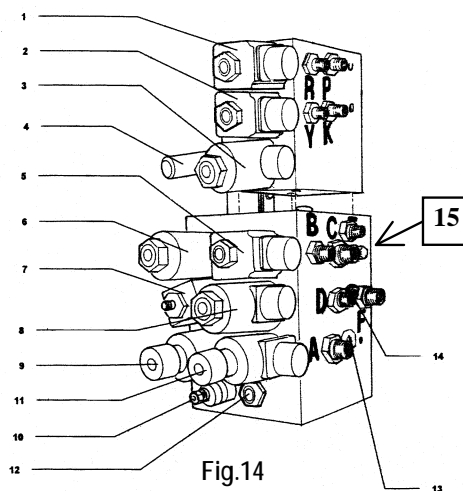

Fig.14
Unscrew the hexagonal bolt (ref.15 fig.14) anti-clockwise.